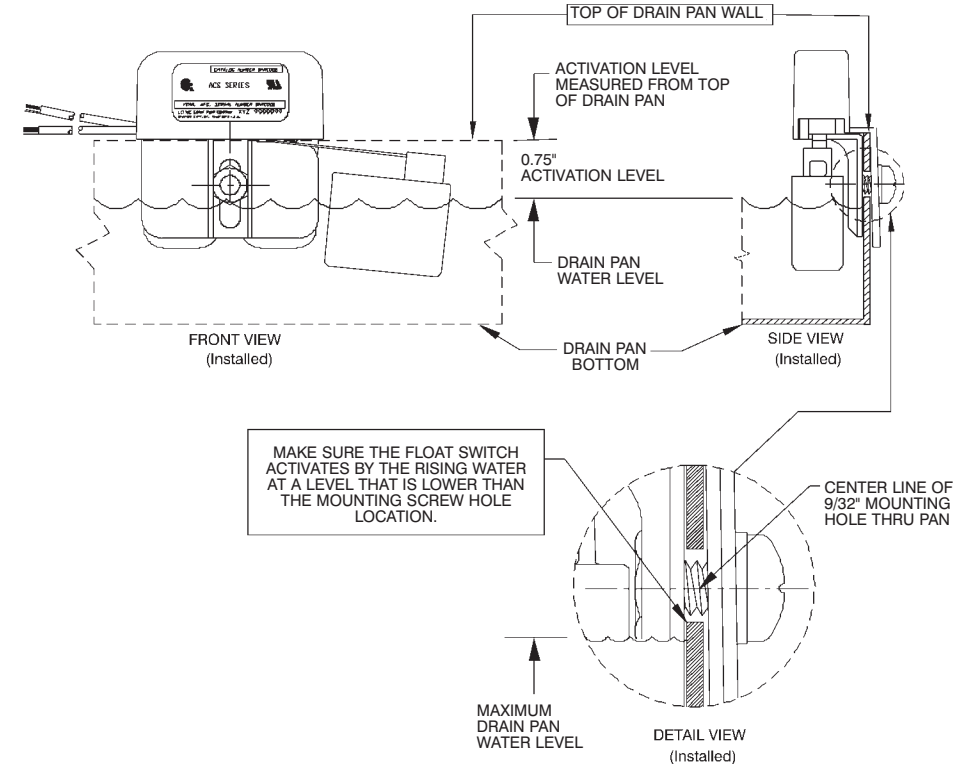

Figure 4
- Plug the drain hole of the condensate drain pan. Temporarily position the ACS in the desired location without the screw, nut or sealing washer so that the switch housing and switch cover are against the drain pan wall (refer to Figure 2). Start filling the drain pan with water until the float lifts up and activates the switch. Make sure that the water level does not approach or overflow the drain pan. There will need to be a sufficient gap (usually $\frac{3}{4}$ ") between the highest water level required to activate the switch and the top of the drain pan (see Figure 4). Confirm the float can travel its full range with no obstructions.